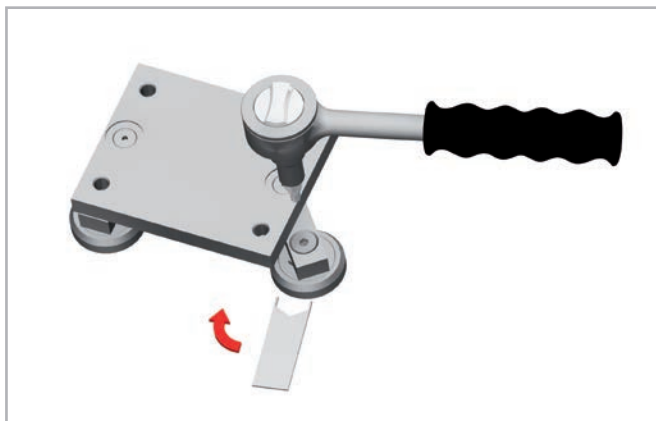

Fig. 23
- The special flat key provided is inserted from the side onto the hexagonal of the roller to be set (see fig. 23).